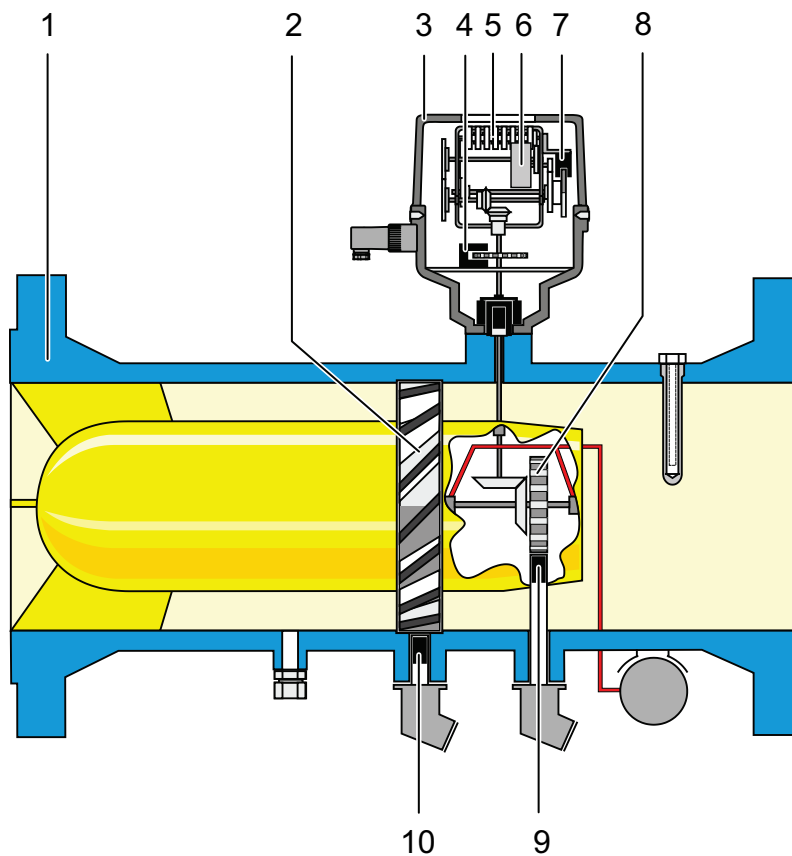

Fig. 34: Section drawing of a turbine gas meter (example)
To measure the rotational speed, various signal transmitters/pulse generators are available, which transmit low-frequency (LF) or high-frequency (HF) pulses to the Flow Computer. The following diagram gives an example overview of how they could be arranged in a turbine gas meter (cf. fig. 34).